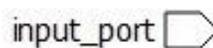
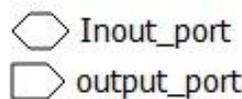

Figure 2.39. Input Port
Figure 2.40. Output Port and Inout Port
- f. Click **OK**. The port appears. Figure 2.39 shows an input port, port name of which is on the left. Figure 2.40 shows an output port and an inout port, port names of which are on the right.